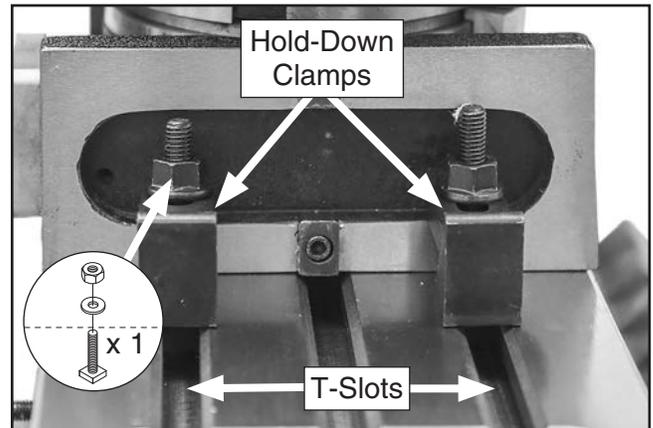

Figure 13. T1243 mounted using hold-down clamps, T-bolts, flat washers, and hex nuts.
4. Insert (1) T-bolt into each milling table outer T-slot, then install (1) hold-down clamp, (1) 10mm flat washer, and (1) M10-1.5 hex nut onto each T-bolt, as shown in **Figure 13**.